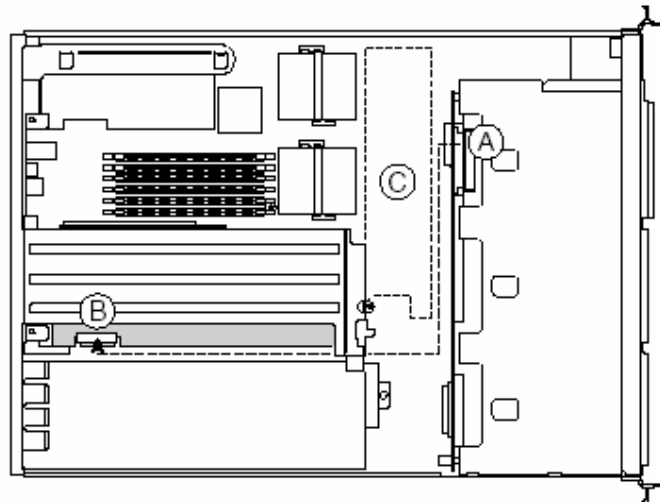

**Figure 30: Onboard SCSI Connector**
4. Connect the cable to the tape drive (see Figure 30, A) and carefully route the folded and taped section on the chassis floor between the fan assembly (C) and the tape drive (A).
5. Connect the cable to the on-board SCSI controller at connector (B).